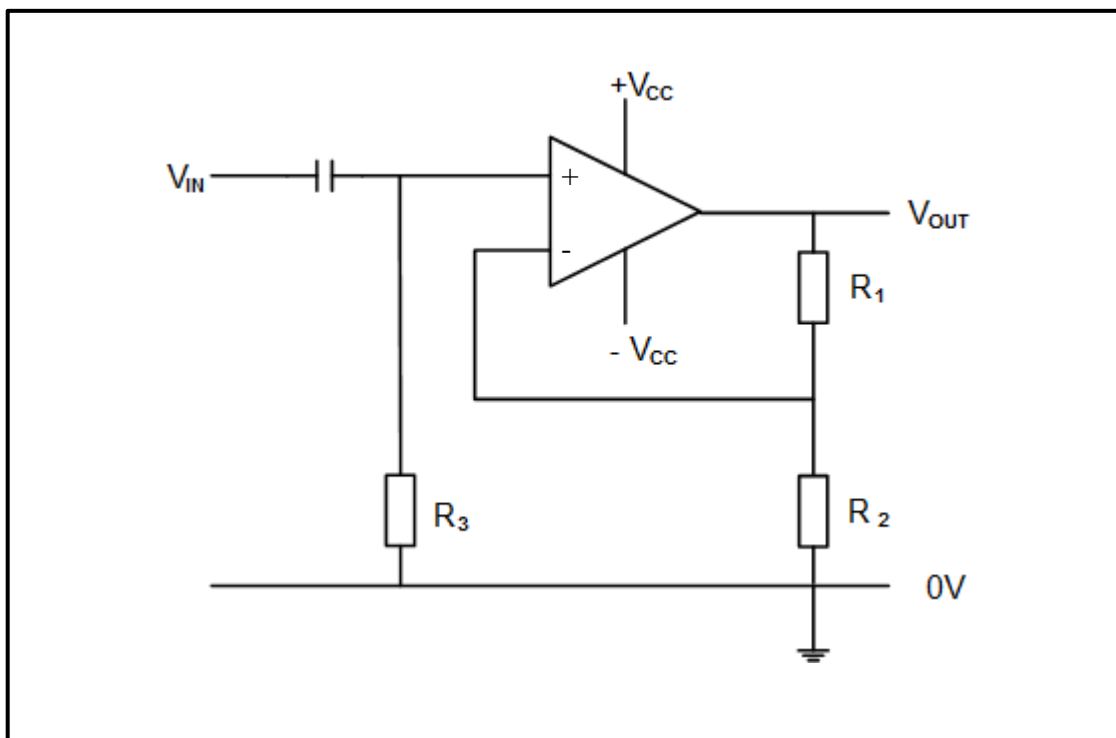

FIGURE 7.13.1: BISTABLE MULTIVIBRATOR OP AMP CIRCUIT
7.13 Refer to FIGURE 7.13.1 below and answer the following questions.